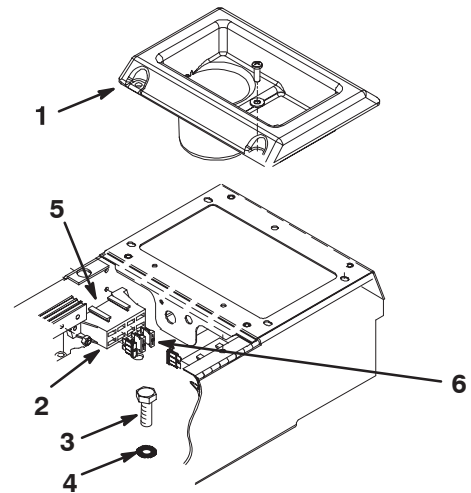

Figure 7
8. Remove the cup holder (Fig. 7) to gain access to the fuse block area.
10. Mount the new fuse block above the existing right fuse block with a #10 x 3/4 in. screw and locknut (Fig. 7).
- Insert the other end of the air ride harness thru the opening in the seat plate and route it to the fuse block (Fig. 7).
- Secure the ground wire (ring terminal) from the harness to the grounding bolt (Fig. 7 & 9). Use the star washer included when making the connection